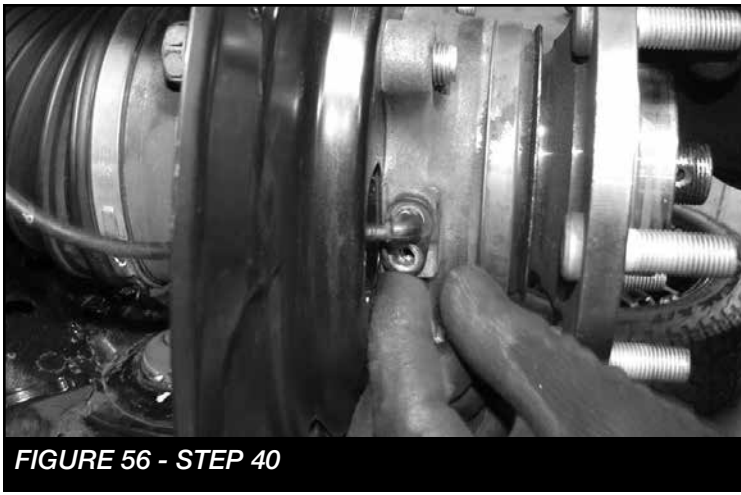
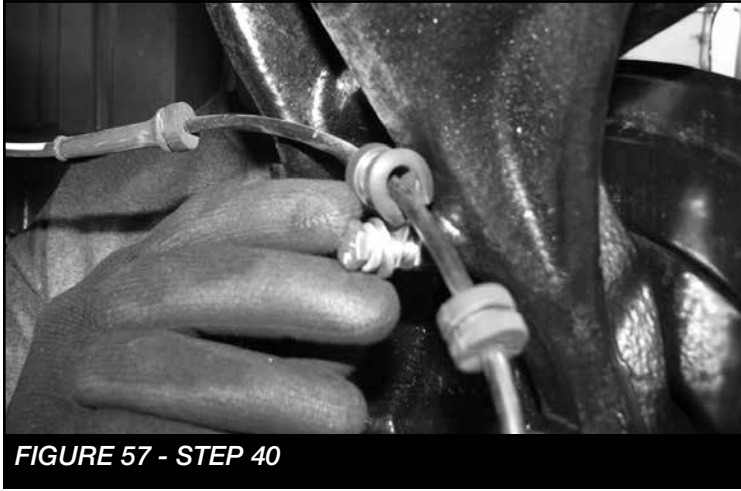

FIGURE 56 - STEP 40
FIGURE 57 - STEP 40
40. Install the ABS sensor into the HUB assembly using the factory hardware. **SEE FIGURE 56**. Using the supplied clamp and M8 hardware. Clamp the ABS line to the back side of the new knuckle. **SEE FIGURE 57**.